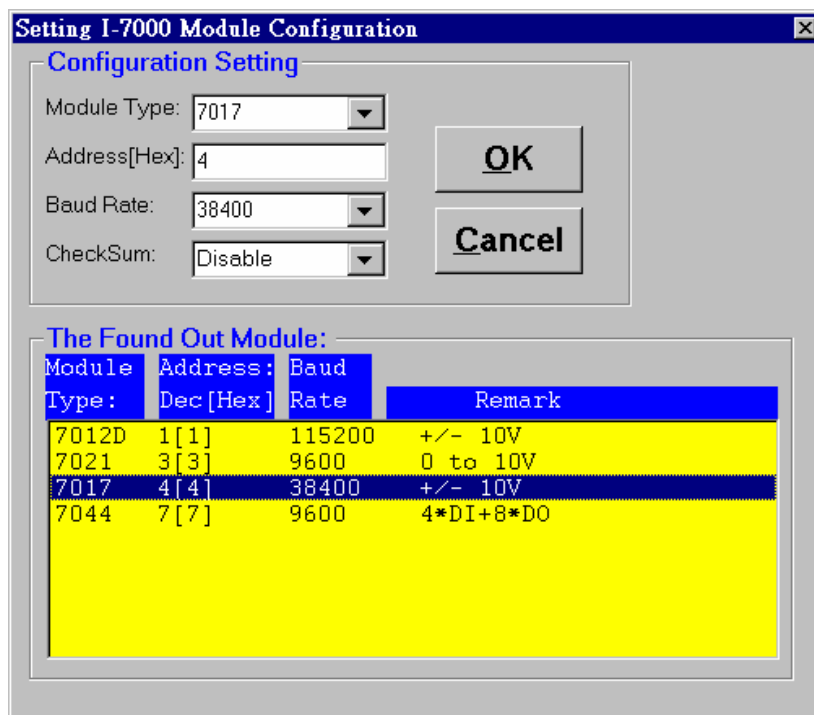

Fig 2-15 After setting the module configuration.
After above six steps, the setting window shown as Fig 2-15.
Step 7: when Fig 2-15 display, click **OK** button to accept the setting.